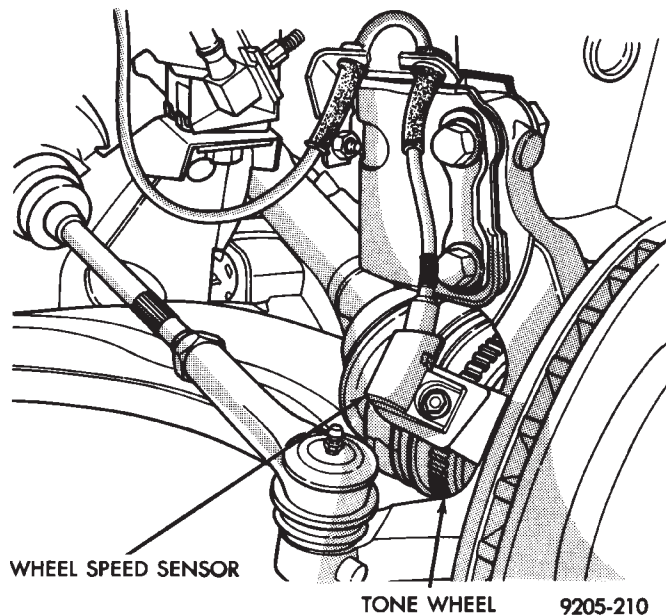
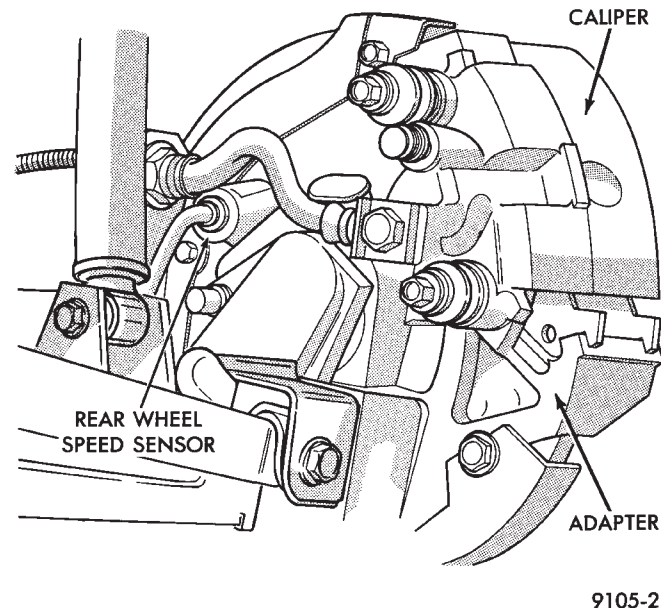
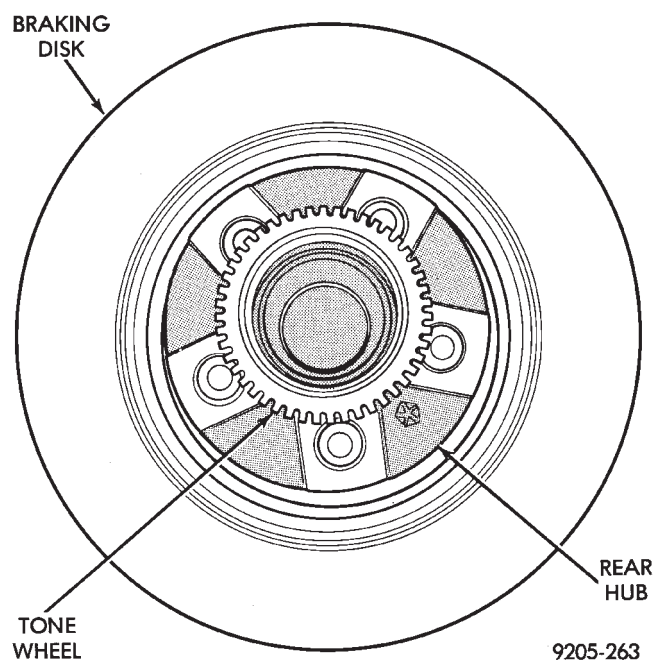

Fig. 4 Front Wheel Speed Sensor
Fig. 5 Rear Wheel Speed Sensor
Fig. 6 Tone Wheel (Typical)
One Wheel Speed Sensor (WSS), is located at each wheel (Figs. 4 and 5), and sends a small (AC) signal to the control module (CAB). This signal is generated by magnetic induction. The magnetic induction is cre-
ated, when a toothed sensor ring Tone Wheel (Fig. 6) passes a stationary magnetic Wheel Speed Sensor. The (CAB) converts the (AC) signal generated at each wheel into a digital signal. If a wheel locking tendency is detected, the (CAB) will then modulate hydraulic pressure to prevent the wheel(s) from locking.
The front Wheel Speed Sensor is attached to a boss in the steering knuckle (Fig. 4). The tone wheel is part of the outboard constant velocity joint. The rear Wheel Speed Sensor is mounted to the caliper adapter (Fig. 5) and the rear tone wheel is an integral part of the rear wheel hub (Fig. 6). The speed sensor air gap is NOT adjustable.